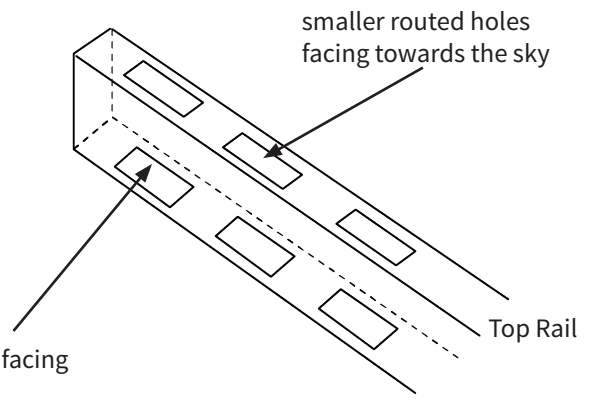

Fig.A3b
**NOTE:** The top-rail will have routed holes on the top and bottom of the rail. The larger routed holes should face towards the ground (Fig. A3b).